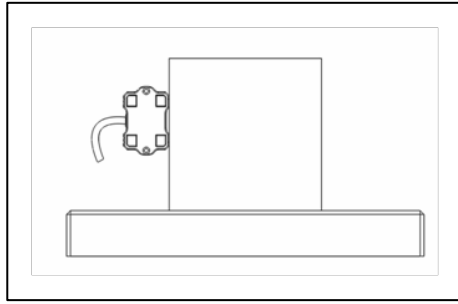

Figure 38. Tilt Sensor Module Position of Calibration Step 4
- Locate the sensor module as following Figure 38. The sensor is ready for user to perform calibration step 2.